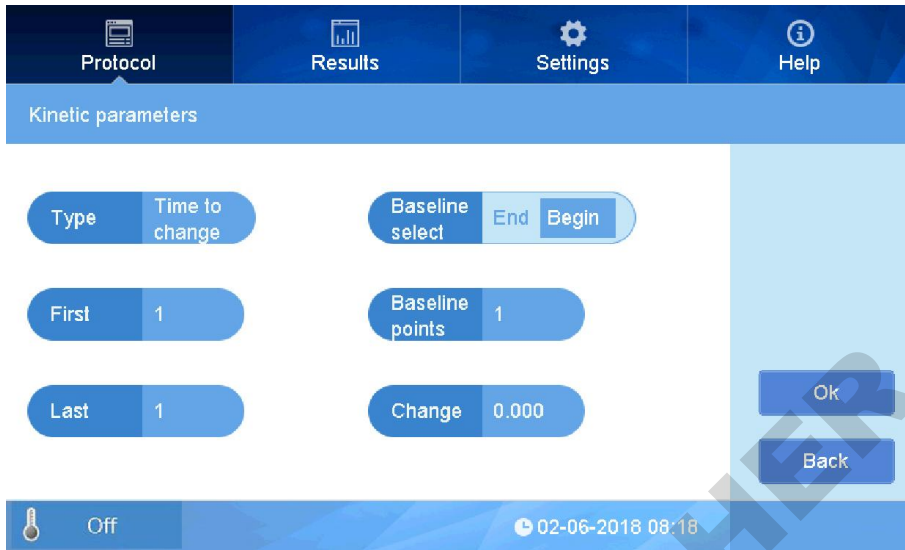

fig 28
- When at mode of “time to change”, three parameters at right side would be active(Fig 28), set parameters according to experiments.